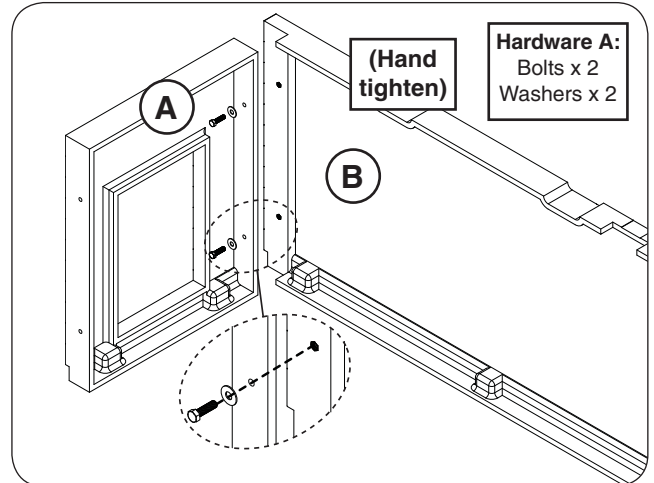

Fig. 7-2 Assemble left side wall and rear wall
Orient the side wall (A) and rear wall (B) as shown. Carefully align the pilot holes, and insert the hardware (hardware kit A) in the order shown. Hand tighten only. See Fig. 7-2.